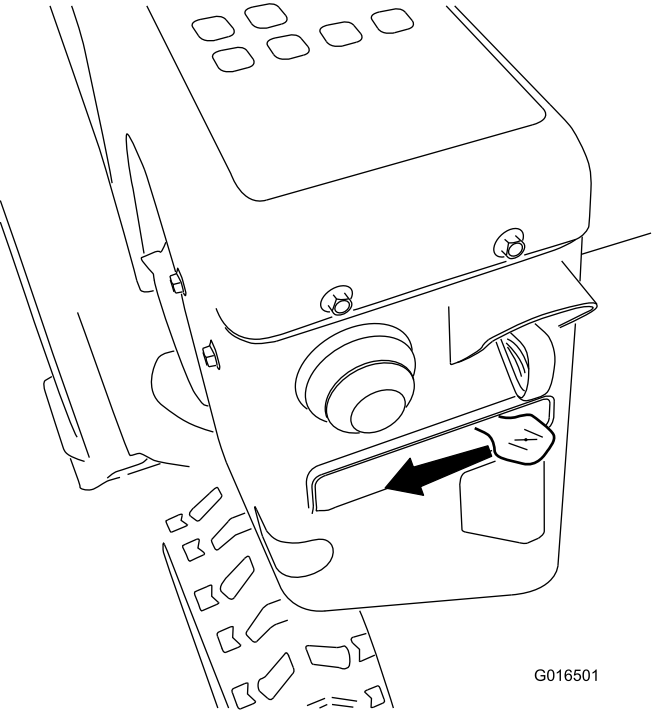

Figure 27
5. Move the choke to the CHOKE position (Figure 27).